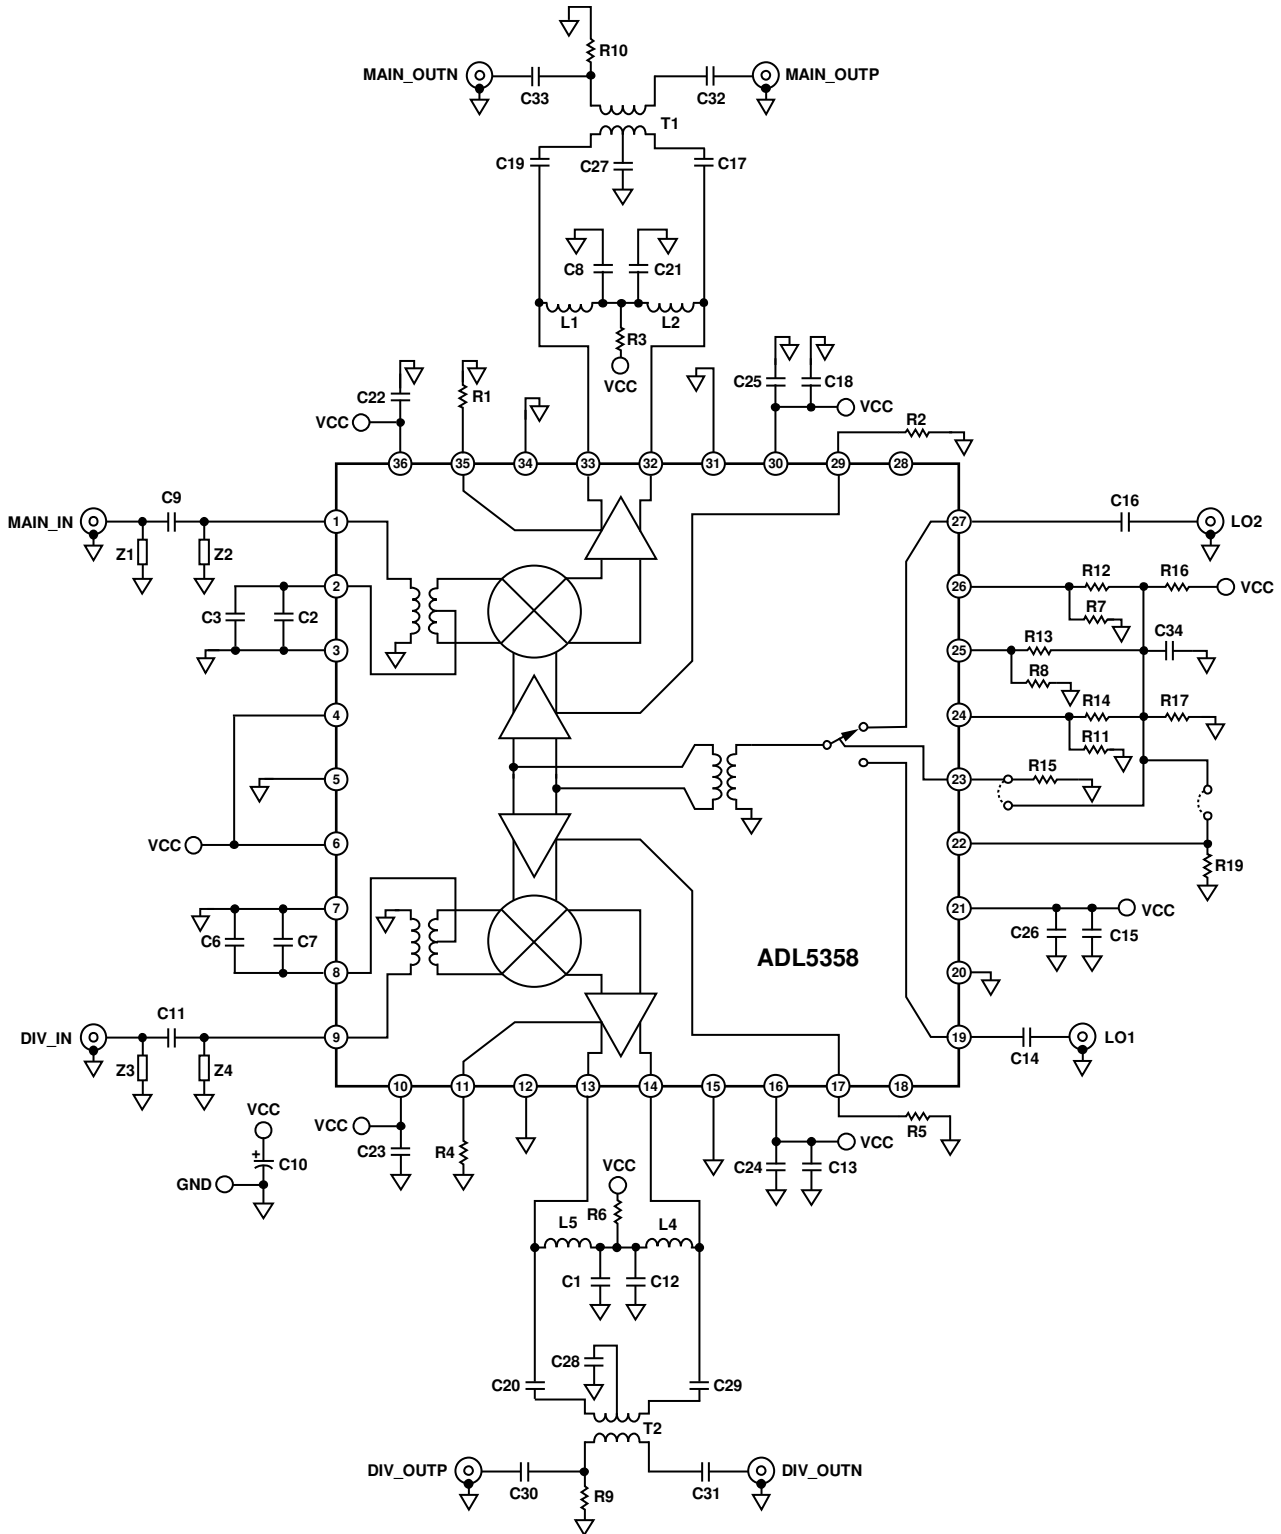

Figure 53. Typical Application Circuit
The ADL5358 mixer is designed to downconvert radio frequencies (RF) primarily between 500 MHz and 1700 MHz to lower intermediate frequencies (IF) between 30 MHz and 450 MHz. Figure 53 depicts the basic connections of the mixer. It is recommended to ac-couple the RF and LO input ports to prevent non-zero dc voltages from damaging the RF balun or LO input circuit. The RFIN matching network consists of a series 8 pF capacitor to provide the optimized RF input return loss for the desired frequency band.
The real part of the output impedance is approximately 200 Ω , as seen in Figure 30, which matches many commonly used SAW filters without the need for a transformer. This results in a voltage conversion gain that is approximately 6 dB higher than the power conversion gain, as shown in Table 3. When a 50 Ω output impedance is needed, use a 4:1 impedance transformer, as shown in Figure 53.